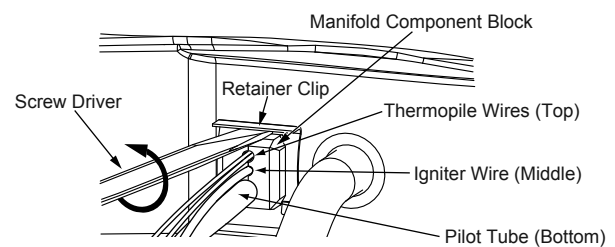

Figure 3
5. Firmly grasp the base of the old thermopile and pull it free of the pilot/thermopile assembly. See Figure 3. NOTE: It may be necessary to slightly wiggle the thermopile while pulling to remove it.
1. Insert the new thermopile into the pilot/thermopile assembly. **IMPORTANT:** For proper operation, the thermopile base must be fully inserted in the pilot/thermopile assembly (Figure 3).
3. Insert the manifold door assembly into the combustion chamber, making sure that the tab of the manifold tube engages in the slot of the bracket inside the combustion chamber. (See Figures 3 and 5, referring to the graphic that applies to your model.)